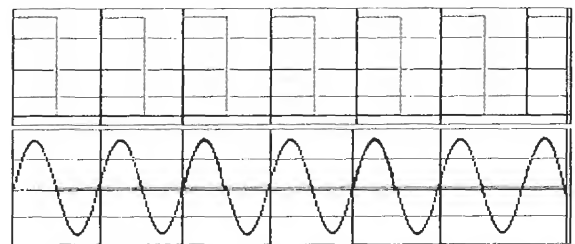

Figure L49-13
4. Reset the voltage to 200 mV AC but set your DMM to V DC. No matter how hard you try, you cannot get a measurement of DC voltage from an AC feed. Why doesn't the signal show any DC voltage? You've seen something similar to this before. Look at Figure L49-13.